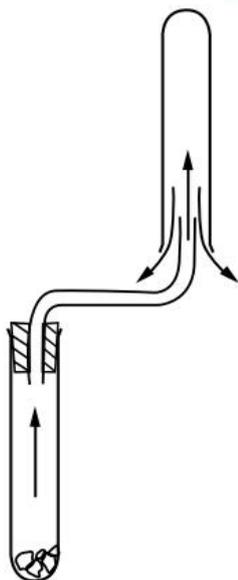

Figure 22.1
1. Set up the gas generating equipment to collect the hydrogen by the downward displacement of air as shown in Figure 22.1. Support the reaction tube using a retort stand and clamp.